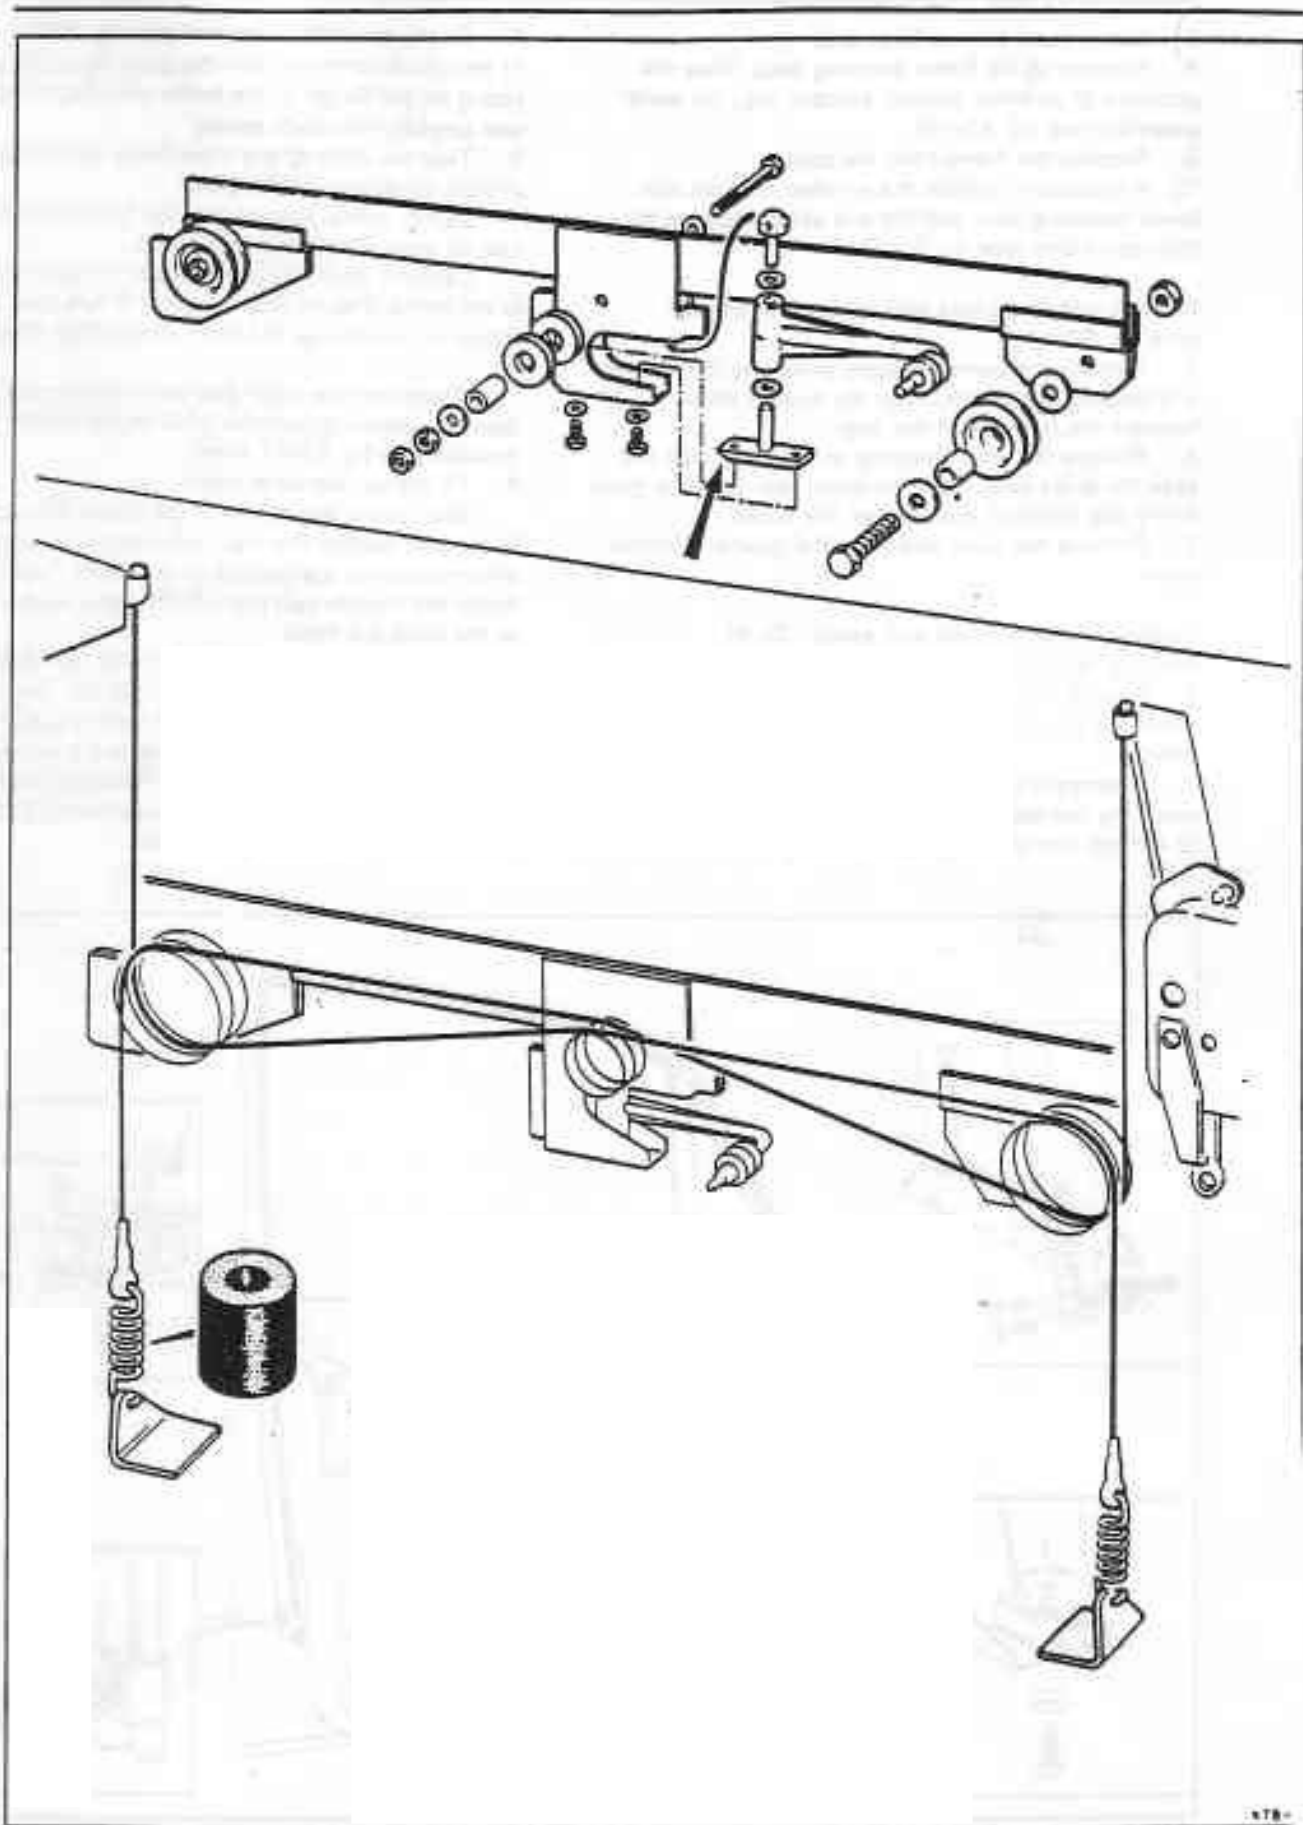

Fig. S3-9 Wire guidance assembly and window glass channel
6. If necessary, remove the swinging arm and pulleys from the glass channel (see fig. S3-9).
3. Fit the swinging arm assembly to the glass channel (see fig. S3-9). A minimum of two nylon washers should be used; one each side of the swinging arm. If required, further washers should be added in order to eliminate any end-float of the arm.
The lower pivot block is chamfered on one end. Position the chamfer as shown in figure S3-9 (arrowed).
4. Fit the large pulleys at each end of the window channel (see fig. S3-9).
7. When fitting the wires refer to figure S3-9. Ensure that the rubber sleeves are fitted over the lower springs.